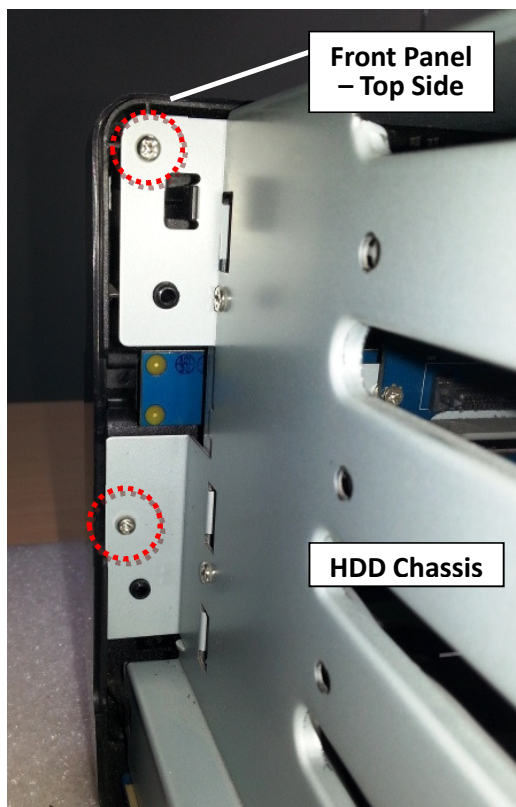
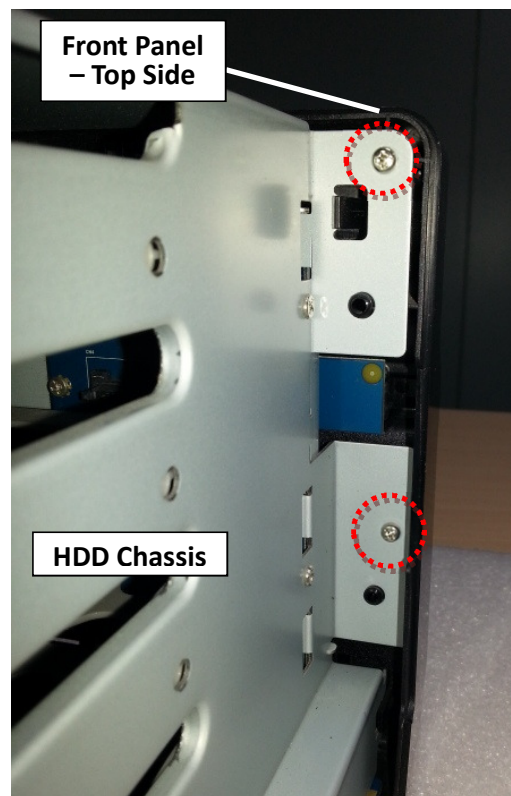

Fig. 55 – Right Side
Fig. 56 – Left Side
3.1.10 Release the two (2) screws on each side of the front panel interior (Marked by the red circles). (Fig. 55 for the right side and Fig. 56 the left side)